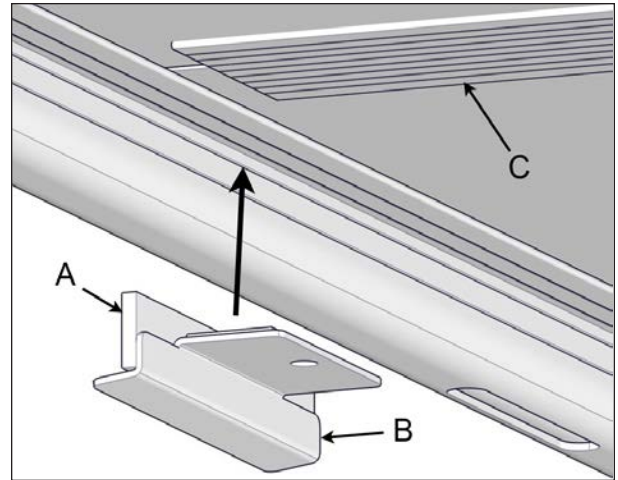

FIGURE 55: WIPER LOCATION
3. Under the cover, locate an I-beam and orientate the wide flap of the wiper outwards of the cover, see Figure 55.